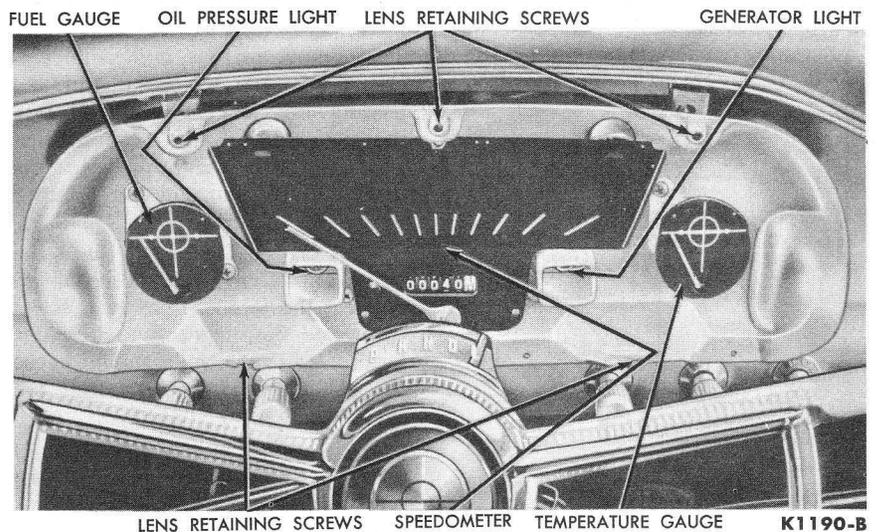
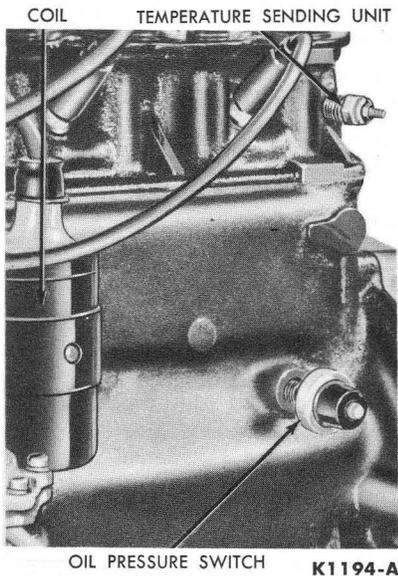
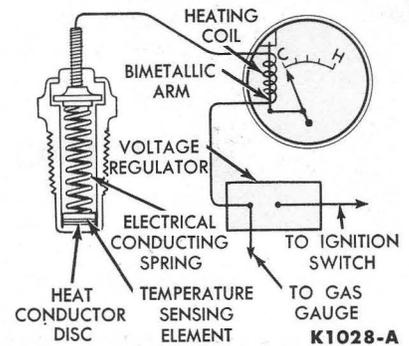

FIG. 19—Instrument Cluster
FIG. 20—Oil Pressure Switch and Temperature Sending Unit
FIG. 21—Temperature Gauge Circuit
Remove the instrument cluster bezel, lens, and cluster mask from the instrument cluster housing (Fig. 19).
The temperature indicator consists of a sending unit (Fig. 20) mounted in the cylinder head, and a remote register unit, (temperature gauge) mounted on the instrument panel (Fig. 19). The principle of operation is similar to the fuel gauge except that the resistance of the sending unit is varied by engine temperature. The temperature gauge circuit is shown in Fig. 21.
1. Disconnect the battery cable. Remove the instrument cluster bezel, lens, and cluster mask from the instrument panel (Fig. 19).
2. Remove the instrument cluster bezel retaining screws and lift the bezel, lens, and cluster mask plate from the cluster housing (Fig. 19).
To test the oil pressure switch on the engine (Fig. 20), turn the ignition switch on, engine not running. The indicator light should come on. If the indicator light does not come on, short the terminal of the oil pressure switch unit to ground. If the light now comes on, the oil pressure switch is defective. If the light still does not come on, the bulb is burned out or the wires from the bulb to the ignition switch and oil pressure switch are defective.
1. Disconnect the oil pressure sending unit wire at the unit (Fig. 20).